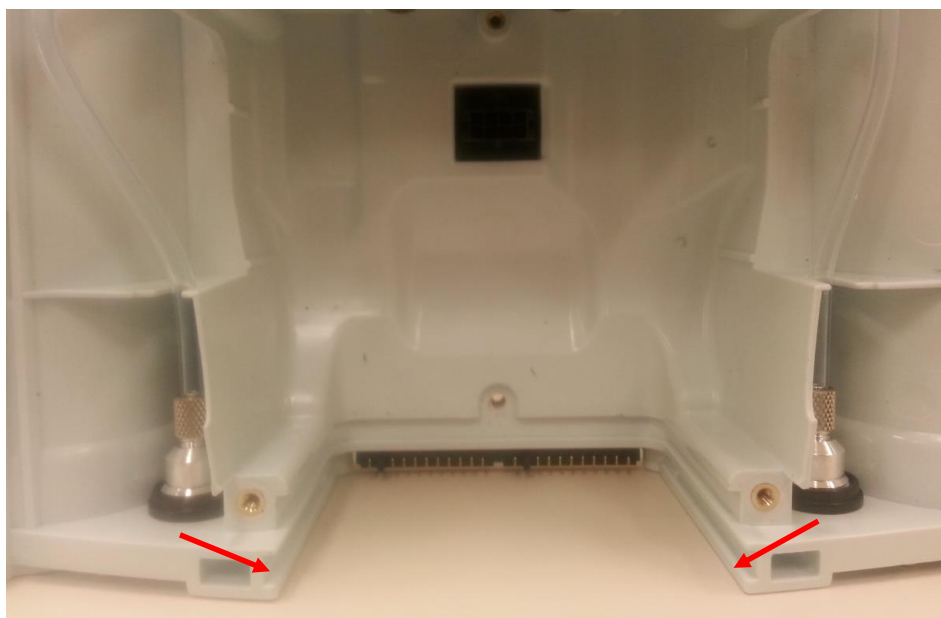

Figure 10: Filter body grooves
1. Slide the compressor, filter body, filter, and new dual feed tube back into the device as a single unit. The filter body slides into specific grooves in the chassis (Figure 10). Use these grooves to guide the whole compressor assembly into the device.